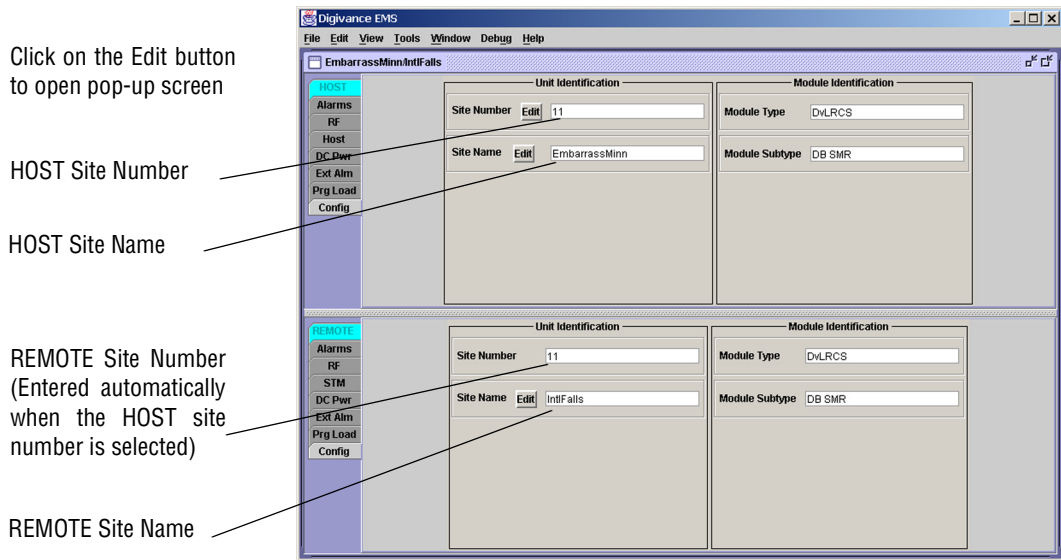
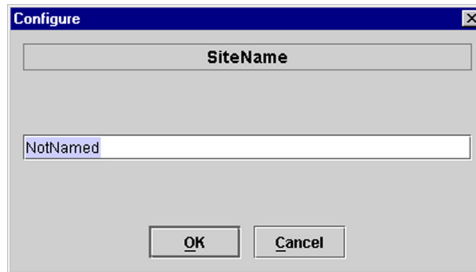

Figure 3-5. HOST and REMOTE Config Displays
Figure 3-6. HOST Site Name Pop-Up Screen
1. Click on the **HOST Config** tab and on the **REMOTE Config** tab. The **HOST Config** display and the **REMOTE Config** display will open within the EMS main window as shown in Figure 3-5.
2. Click on the **HOST Site Name Edit** button (see Figure 3-5). The **Site Name** pop-up screen will open as shown in Figure 3-6. Enter a unique name for the HOST. The name may be up to 32 characters long and must not contain any spaces. The name may include numbers, punctuation, and upper or lower case letters and must always begin with a letter. Click on **OK** to close the screen and make the changes take effect.
3. Click on the HOST **Site Number Edit** button (see Figure 3-5). The **Site Number** pop-up screen will open. Enter any number (must be unique) between 1 and 24 and then click on **OK** to close the screen and make the changes take effect.
4. Check the REMOTE **Site Number** field (see Figure 3-5). The REMOTE Site Number does not have to be entered. When the HOST Site Number is entered, the system will automatically enter the same number for the REMOTE Site Number.
5. Click on the REMOTE **Site Name Edit** button (see Figure 3-5). The **Site Name** pop-up screen will open. Enter a unique name for the REMOTE. The name may be up to 32 characters long and must not contain any spaces. The name may include numbers, punctuation, and upper or lower case letters and must always begin with a letter. Click on **OK** to close the screen and make the changes take effect.